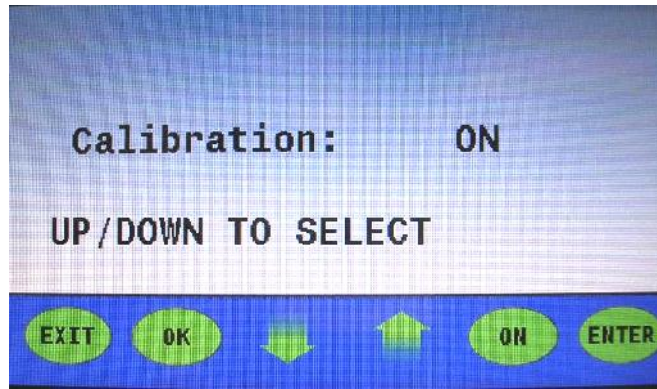

Figure 10
32. Press the up or down arrow to change "GAIN to "ON". (**Figure 10**)
21. Verify the parameters on the Main Screen (**Figure 10**) match the parameters in step (1).